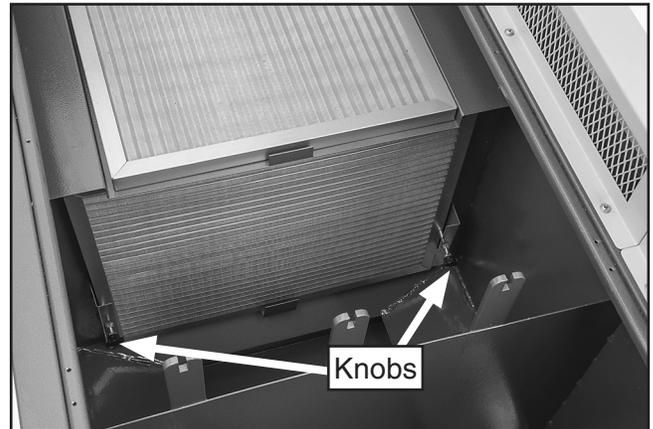

Figure 21. Lower filters secured by knobs.
3. Loosen filter knobs counterclockwise to remove lower filters (see **Figure 21**).